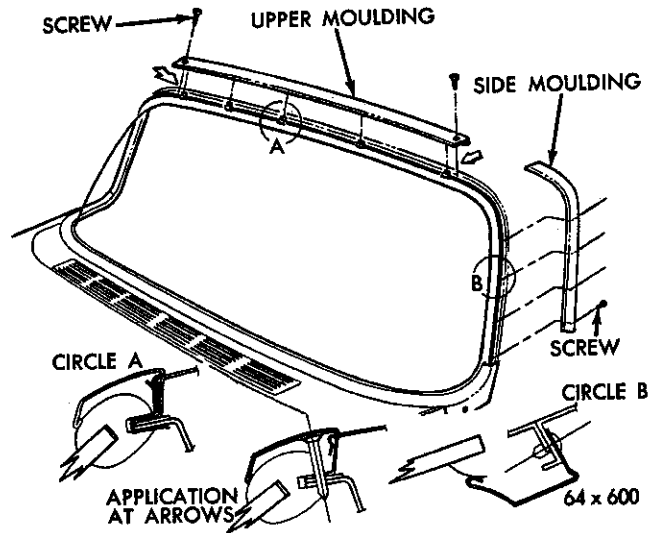

Fig. 55—Windshield Upper and Side Moulding Attachment
- (3) Remove the "A" post lower moulding attaching screws and remove the moulding (Figs. 55 and 56).
- (4) With a suitable tool carefully raise the extreme
(1) Inspect the moulding retaining clips around the windshield opening (Figs. 55 and 56).